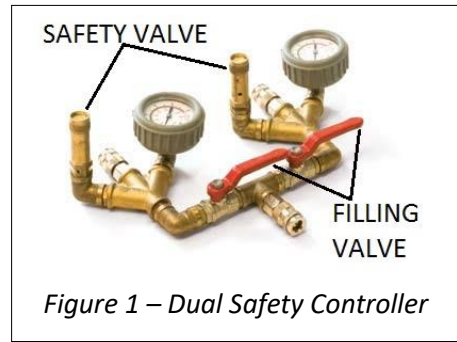

Figure 1 – Dual Safety Controller
- 4.1.3 Using the pressure gauge, check the working pressure and the air bag operation at inflation. Once lifting or separating is complete, close the filling valve on the controller (see Figure 1).